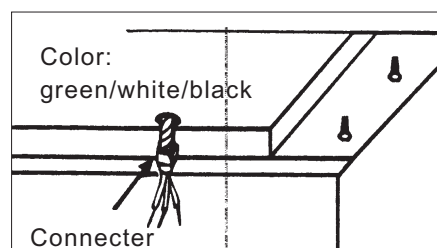

Fig.9
2. Fish the electrical power line through the access hole drilled in the wall or bottom of the cabinet. Attach an appropriate connector (purchased locally) to the end of the power line for the type of wiring being installed. Follow all codes. (Fig.9)